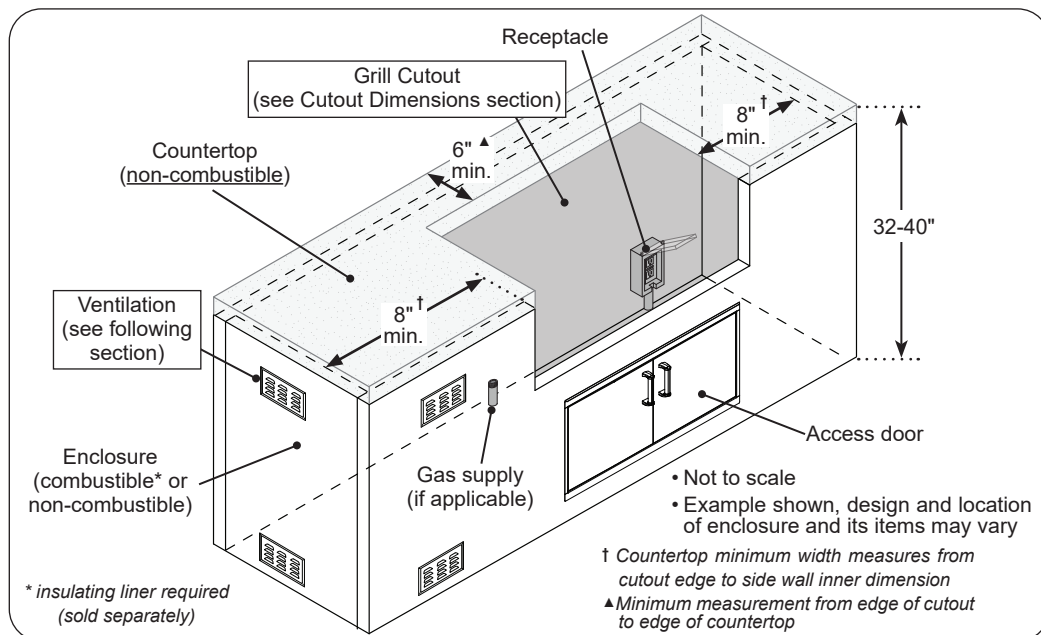

Fig. 11-1 Enclosure specifications
The enclosure can be constructed according to your individual preference, while following all guidelines found in this manual. The enclosure **MUST** (see Fig. 11-1):
- have the minimum dimensions specified in Fig. 11-1
- meet all requirements found in Fig. 11-1 and the following sections